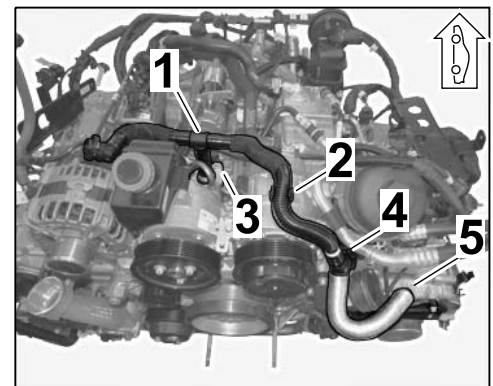

Figure 13
2.4.6 Fit new crankcase vent line ( ⇒ *Workshop Manual '1001Z2 Assembling engine'* ⇒ *Figure 13*)